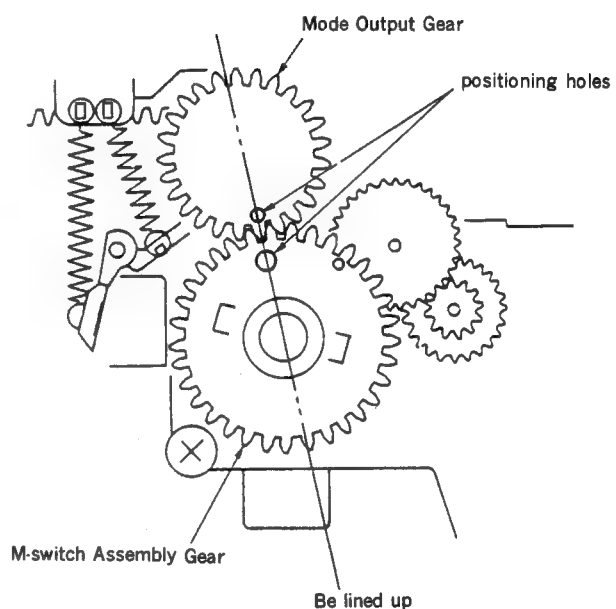

Fig. 4
- (6) Install the Mode Output Gear so that the center of the M-switch Assembly Gear and the two positioning holes are lined up. (fig. 4)
- (7) Install the stopper washer to the shaft of the Mode Output Gear.
- (8) Press the M-mode select button of the Mode Selector and set to the **LOADING/UNLOADING** mode.
- (9) Assemble the parts with Removal Steps (1) to (7) in reverse order.